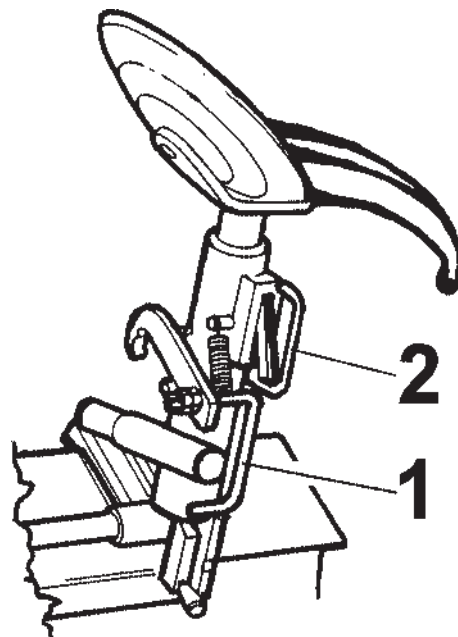

Fig. 8
F. To lift the tool holder arm, depress the pedal (#1 Fig.8) and hold handle (#2 Fig.8).